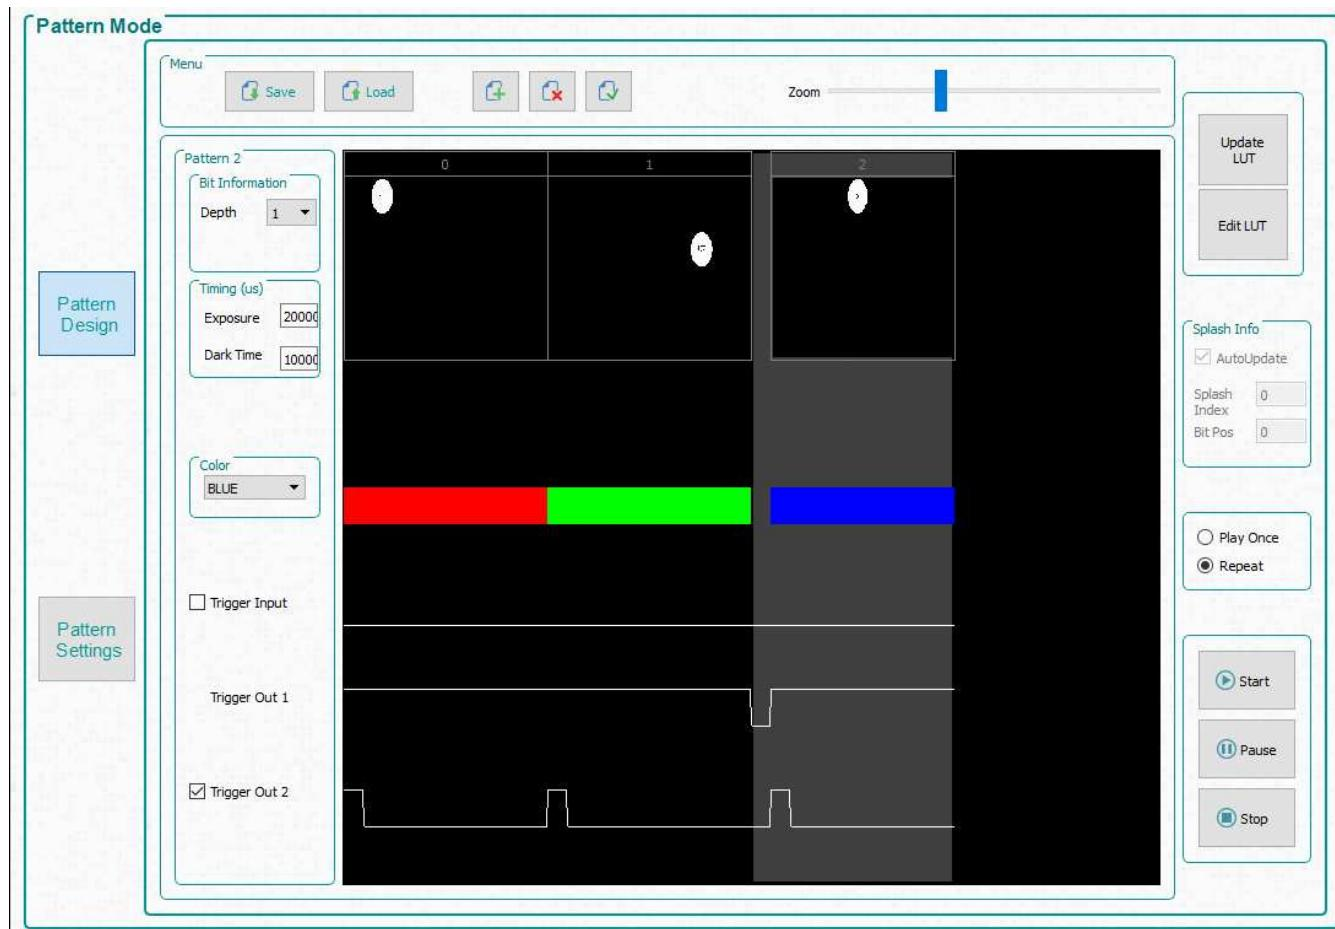

Figure 2-2. Simple Three Pattern Sequence
5. Select the third pattern and choose a bit depth of 1. Set exposure to 200000 µs, dark time to 100000 µs, and select **Blue** for the color. **Figure 2-2** shows the pattern sequence.